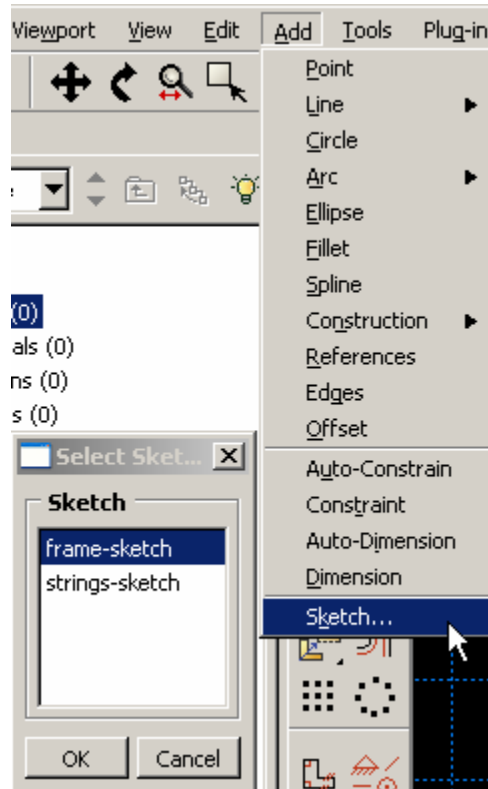

Figure W-6 Add Sketch tool.
4. In this case instead of sketching the profile we will import it from already existing sketch. To import an already existing sketch choose **Add** → **Sketch** and select **frame-sketch** from the **Select Sketch** window (Figure W-6). The frame sketch will appear in the current Viewport.